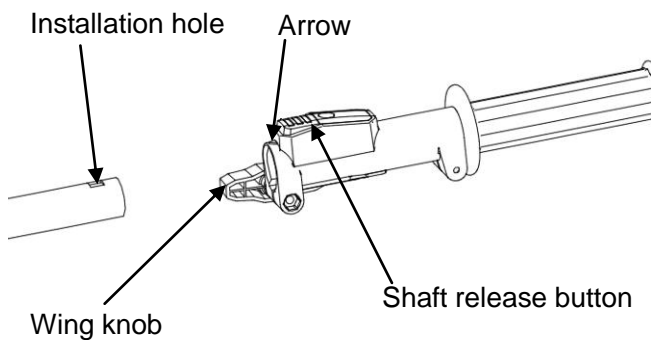

Fig.3A
3. Align the installation hole on the attachment shaft with the arrow on the power head shaft, and push the attachment shaft into the power head shaft until you hear a “click” sound, which means that the attachment shaft is mounted into place. (Fig.3A)